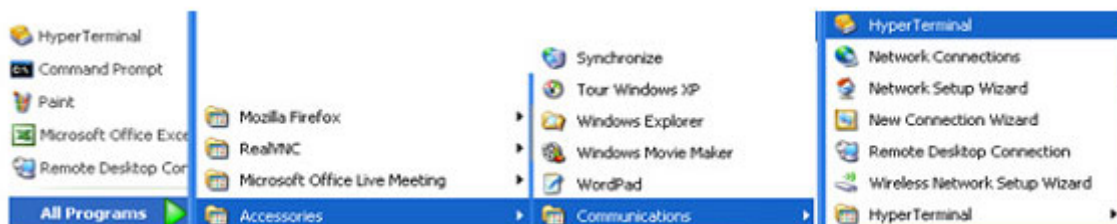

Figure C-4. Launch HyperTerminal application
3. Open the HyperTerminal application as shown in Figure C-4.